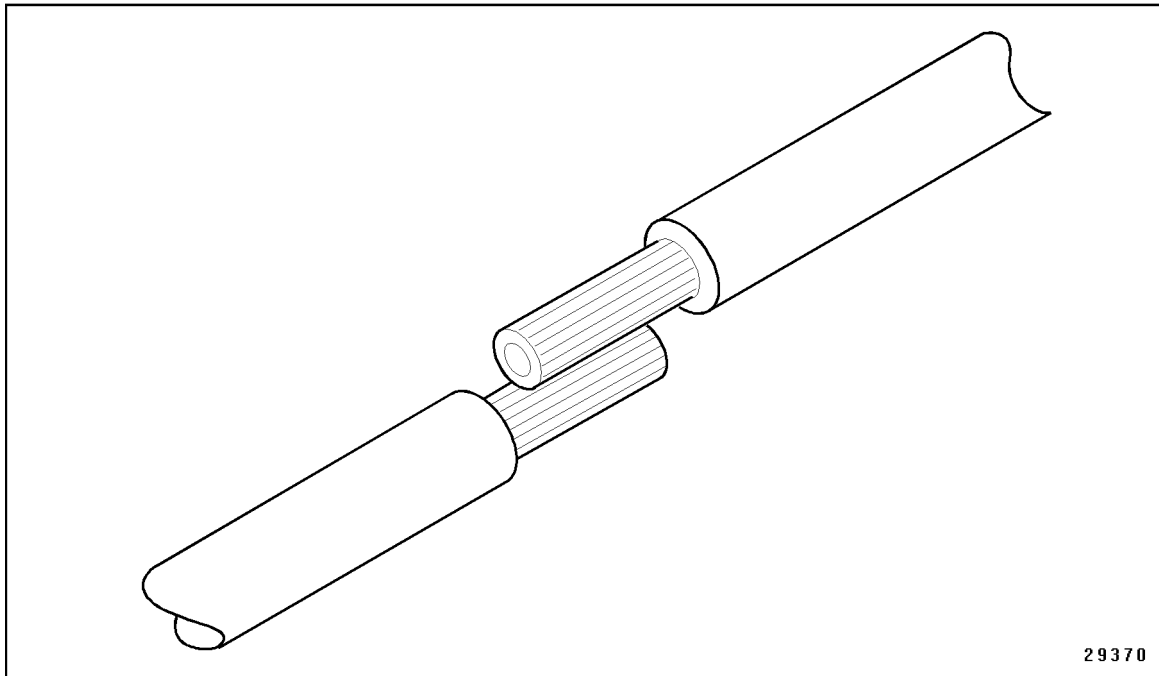

Figure 2-22 Positioning the Leads
1. Position the leads, so one overlaps the other. See Figure 2-22.